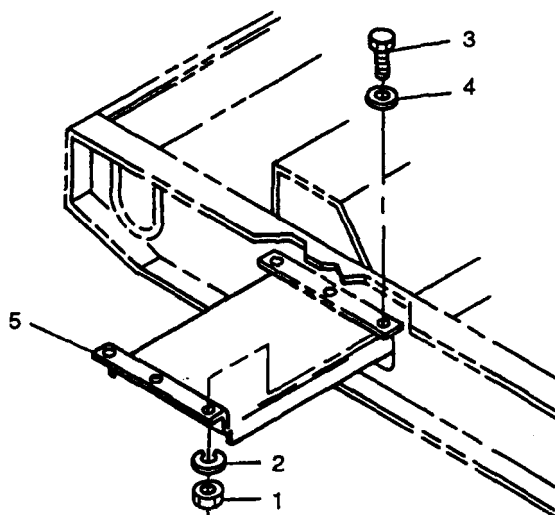

FIGURE 3-15. Front Fork Lift Guide
- ba. Remove nuts (1, FIGURE 3-15), lockwashers (2), bolts (3), washers (4), and front forklift guide (5) from skid base.
- p. Install front fork lift guide (5, FIGURE 3-15) to skid base with bolts (3), washers (4), lockwashers (2), and nuts (1).